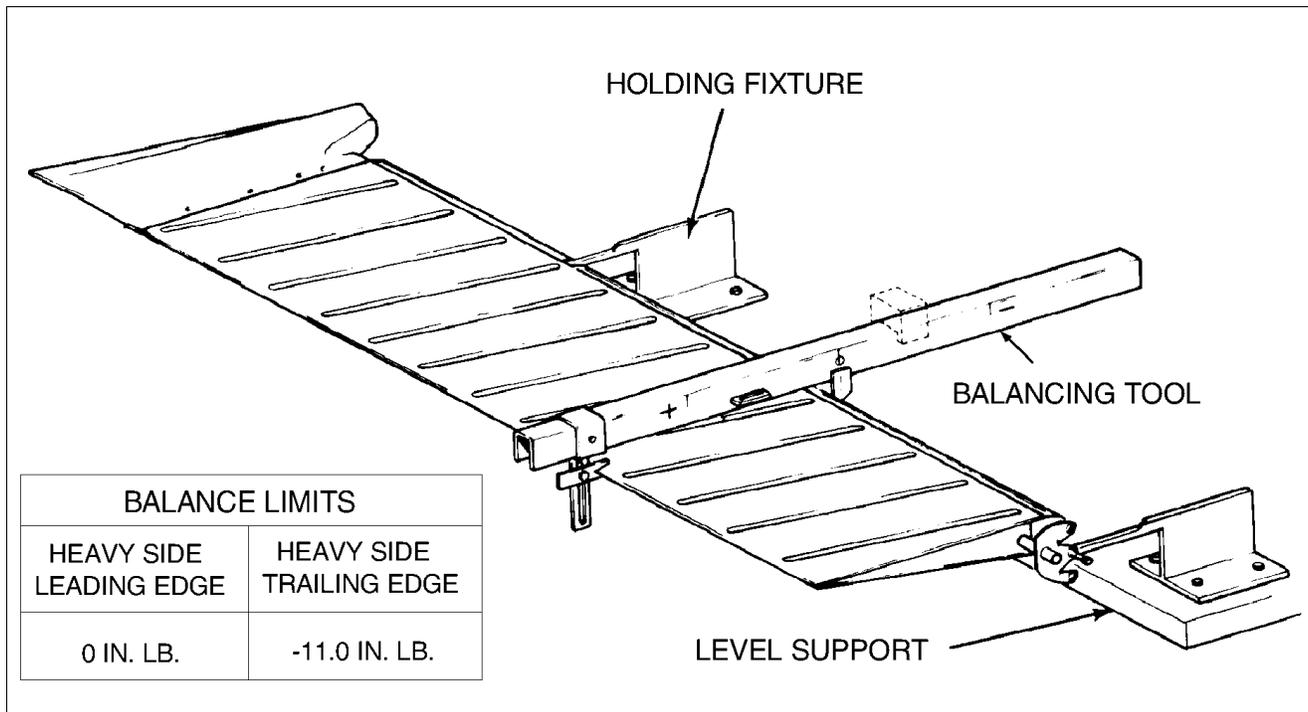

Figure 55-4. Rudder Balancing
**B. Balancing of Rudder (Refer to Figure 55-4)**